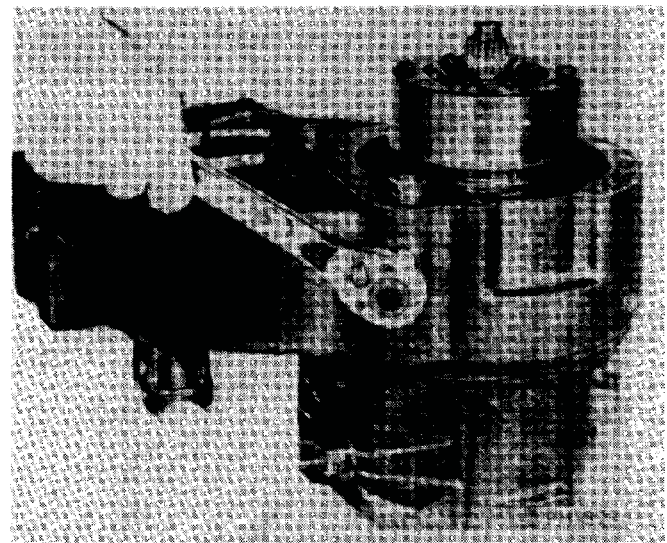

Fig. 14—Removing Detent Ball Plug
(9) Remove shift rail detent ball plug, gasket, spring and ball from case (Fig. 14). A small magnet may be used to remove ball.